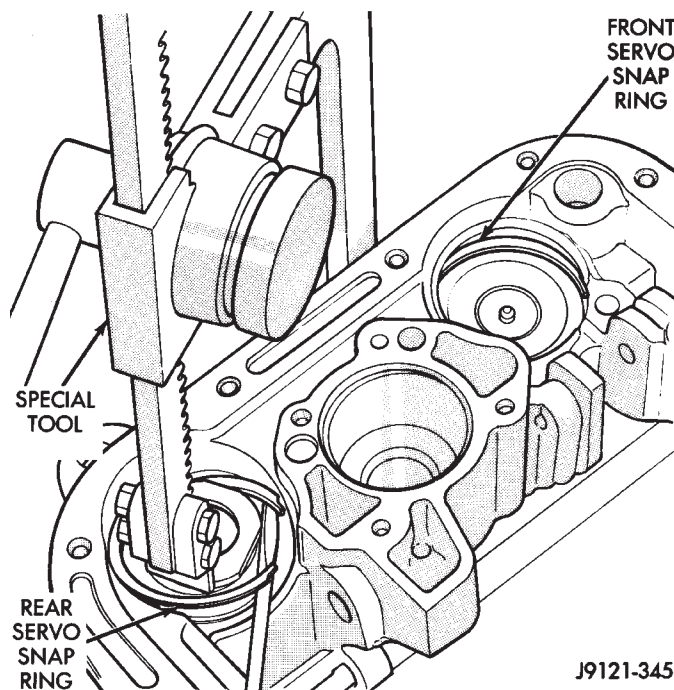

Fig. 152 Compressing Rear Servo Spring
(46) Compress rear servo spring retainer about 1/16 inch with Valve Spring Compressor C-3422-B (Fig. 152). A C-clamp and Tool C-4470 or SP-5560 can also be used to compress spring retainer.
(47) Remove rear servo spring retainer snap ring. Then remove compressor tools and remove rear servo spring and piston.
(48) Inspect transmission and overdrive components. **If major components such as the overdrive unit, front clutch, or oil pump require service, refer to appropriate overhaul procedure.**